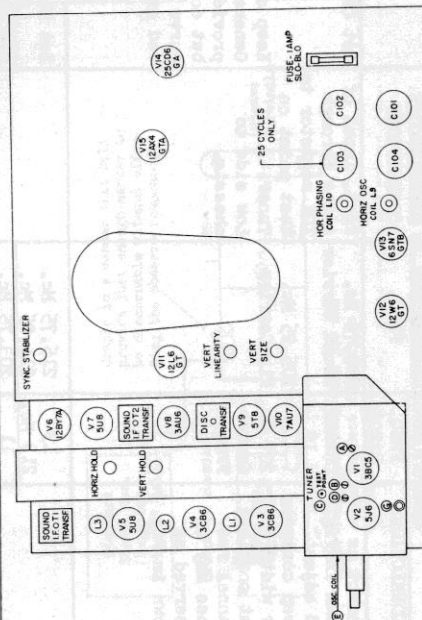

FIGURE 1. CHASSIS LAYOUT REAR-VIEW.
b. Alignment Points - The location of all I.F. coils, tuned circuits and trimmers are shown in Figure 1.